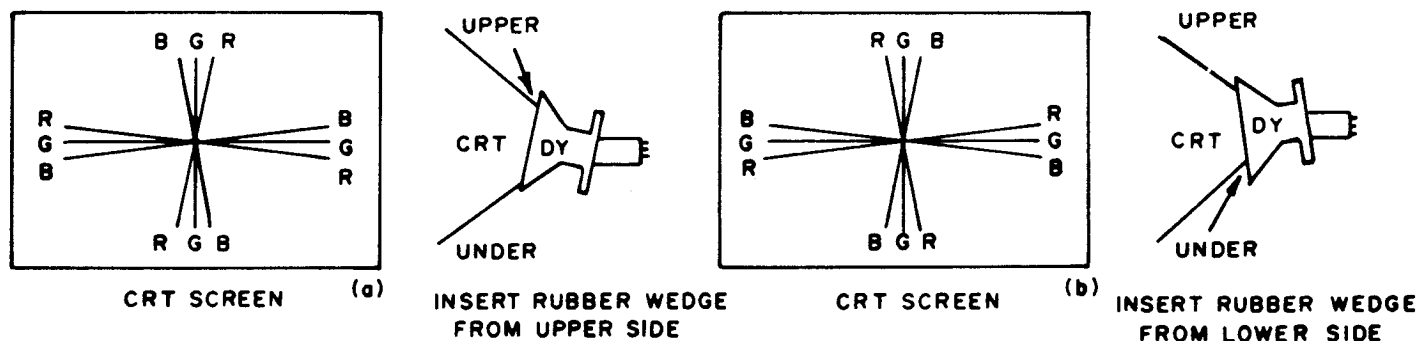

FIG. 8
2. Insert wedge temporarily and fix the Deflection Yoke so as to obtain the best circumference convergence (See Fig. 8 and 9)
- 1) Tilting the angle of the yoke up and down adjusts the crossover of both vertical and horizontal red and blue lines. See Fig. 8 (a) and (b).